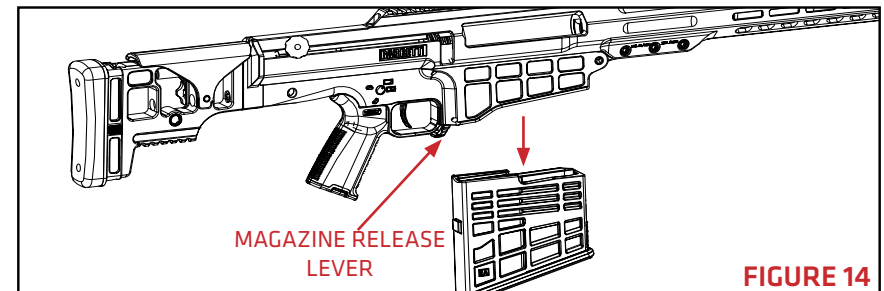

FIGURE 14
1. Place the rifle on safe. Remove the magazine from the rifle by pressing the magazine release lever forward (**FIGURE 14**).
1. Remove the magazine (**FIGURE 14**) and ensure the rifle is unloaded.